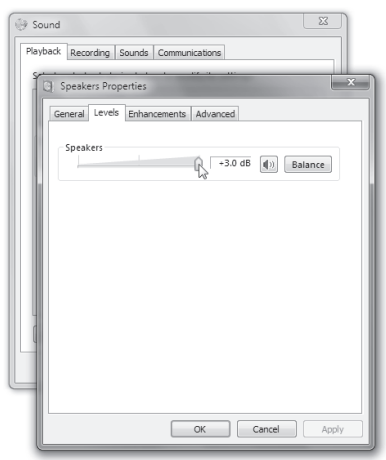

Figure 6
7. Select the "Playback" tab, then select the "Level" tab to set the computer's Master Volume to 100% (Figure 6), and use the Studio GT's front panel Level knob to control the overall output from the speakers and headphones.